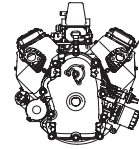

**Figure 7-2. Testing DC Output Wire**
4. Attach RED test lead probe to DC output wire terminal (Red Wire), Figure 7-2.